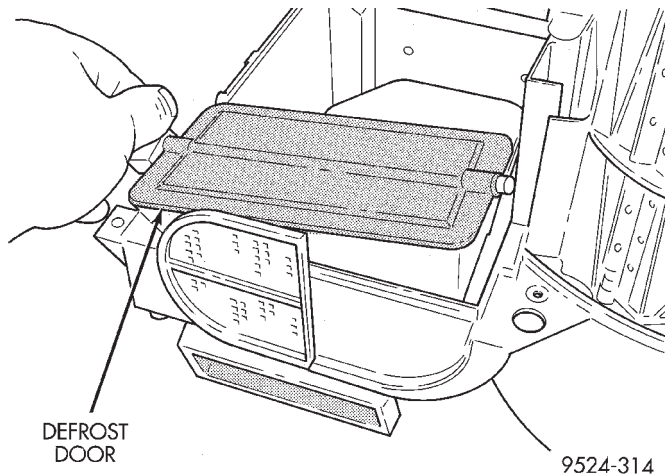

Fig. 107 Defrost Door Removal
- (37) Remove defrost door from housing (Fig. 107).